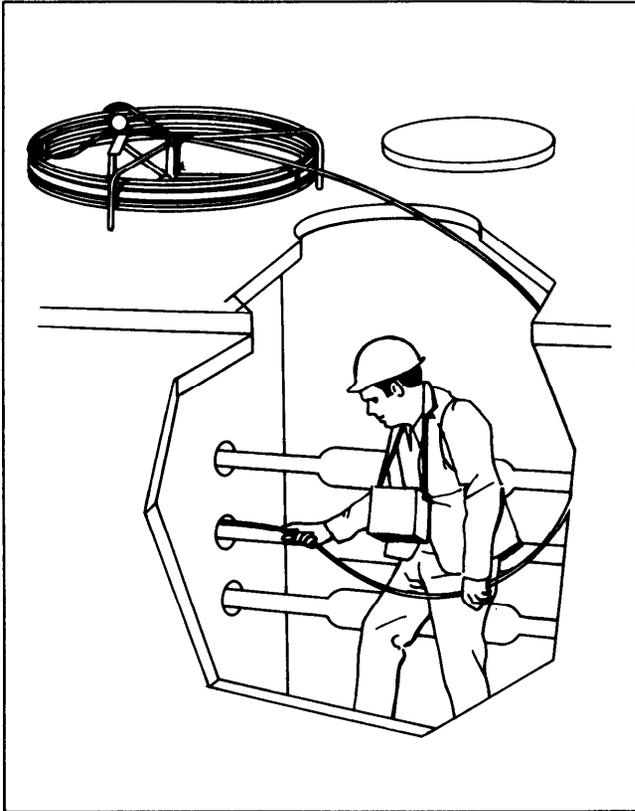

Fig. 9 - Using Model 1801 Multisonic Duct Probe to Find Leaks in Conduit
8.27 When helium is detected in a duct the Mark Products Model 1801 Underground Duct Probe may be used to establish the exact location of leaks between manholes. (Fig.9)